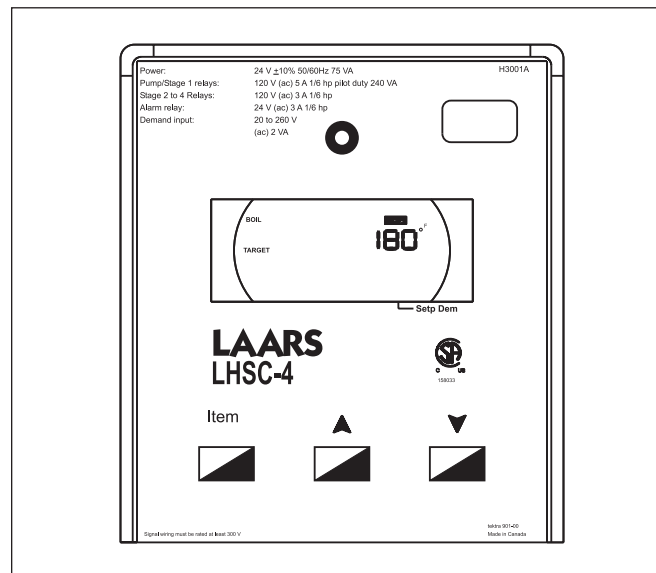

Figure 25. Temperature Control.
There are three black programming buttons on the Temperature Control (see **Figure 25**). Press and hold all three programming buttons until the word **ADJUST** appears in the upper right corner of the LCD display (it replaces the word **VIEW**).
The control also evaluates the sensor(s) installed in the system. If the control is not in warm weather shutdown (WWSD), and the sensor(s) are below the target temperature, the “Dem” segment is turned on in the display. The control energizes the pump (on pump mounted boilers) and energizes both “PMP” terminals. The pump symbol appears in the display (see Figures 25 and 26). The control then operates the stages to maintain the setpoint temperature.
Step 2: Press the three programming buttons to enter ADJUST mode (Figure 25). Press ITEM to select the programming item, and the arrow keys to adjust the setting. TARGET TANK is desired tank temperature. Recommended settings with a desired tank temperature of 125°F:
Step 3: Press the three programming buttons to enter ADJUST mode (Figure 25). Press Item to select the programming item, and the **ARROW** keys to adjust the setting. See Section 6.3 Programming the Temperature Control if more programming instructions are needed.